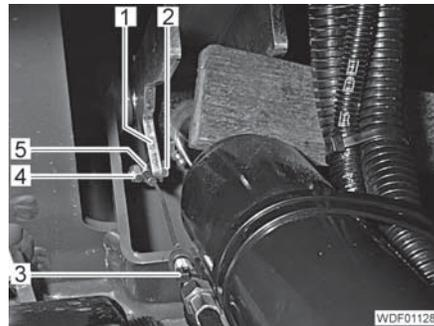

Fig. 414 Fixing on the cab securing device
- Lift up the cab securing device (Fig. 414,1) and temporarily fix in position by suitable means (e. g. a block of wood).
- Unscrew the nut (Fig. 414,4).
- Remove the eye (Fig. 414,5).
- Remove the fixing (Fig. 414,3).
- Fit the eye (Fig. 414,5) onto the bolt (Fig. 414,2).
- Screw the nut (Fig. 414,4) onto the bolt and tighten so that the eye can still be turned.
- Replace the fixing (Fig. 414,3).